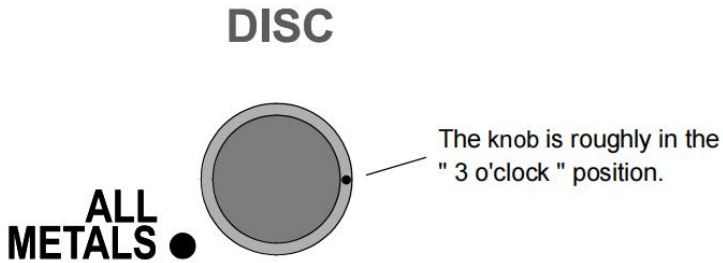

Figure 9. The ALL METALS/DISC Knob
4. To have the metal detector ignore nickel metals, set the **ALL METALS/DISC** knob to about " 3 o'clock " (see Figure 9). Sweep the nickel across the search coil at a distance of about 5cm to 7.5cm; the metal detector will not respond to the nickel or the iron nail. But it will respond to the other samples.